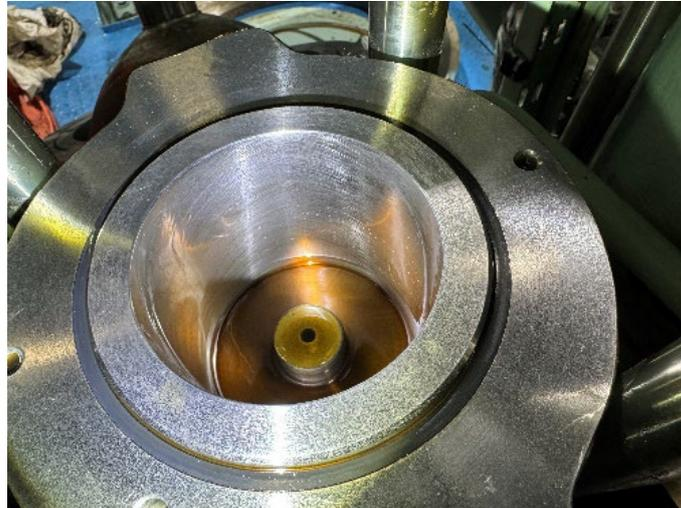

Fig. 4: Exhaust valve actuator housing
5. Exhaust valve actuator (Table 6, Fig. 4)